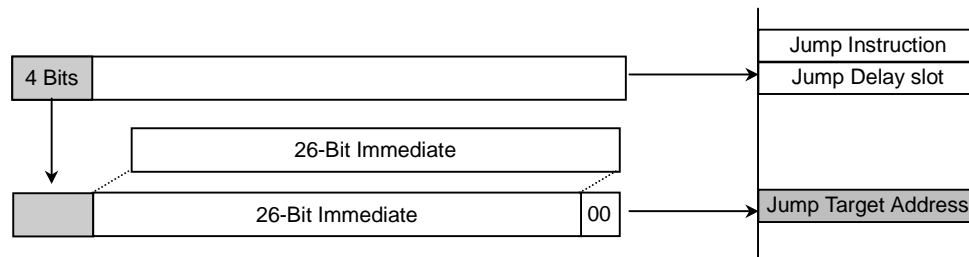

Figure 3-6 Paged Absolute Addressing (32-Bit ISA Mode)
The J, JAL and JALX instructions unconditionally transfer program control to a target address using paged absolute addressing. They generate the next instruction address by shifting the 26-bit immediate operand by two bits and merging the resultant value with the four most-significant bits of the program counter (PC). Figure 3-6 shows how the jump target address is generated by paged absolute addressing. As shown in Figure 3-6, the target address for a jump is computed from the address of the instruction immediately following the jump instruction, i.e., the address of the jump delay slot. The four most-significant bits of the PC indicate a specific page in a 16-page address space.